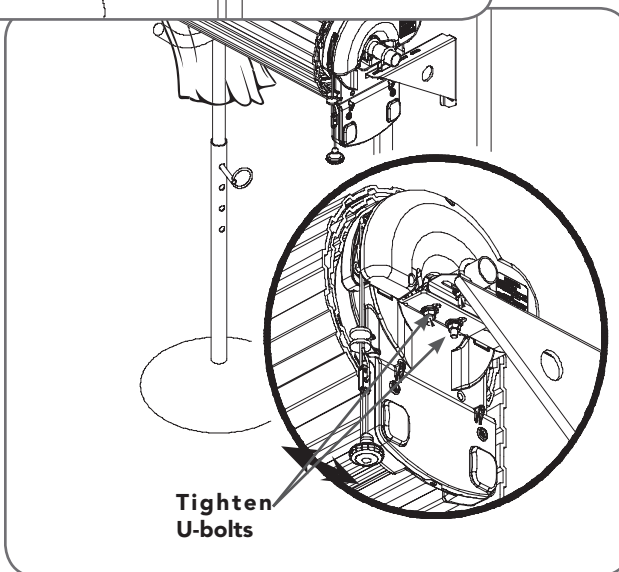

Fig. 6.5.3
- Refit the U-bolt and nuts and tighten (**Fig 6.5.3**).